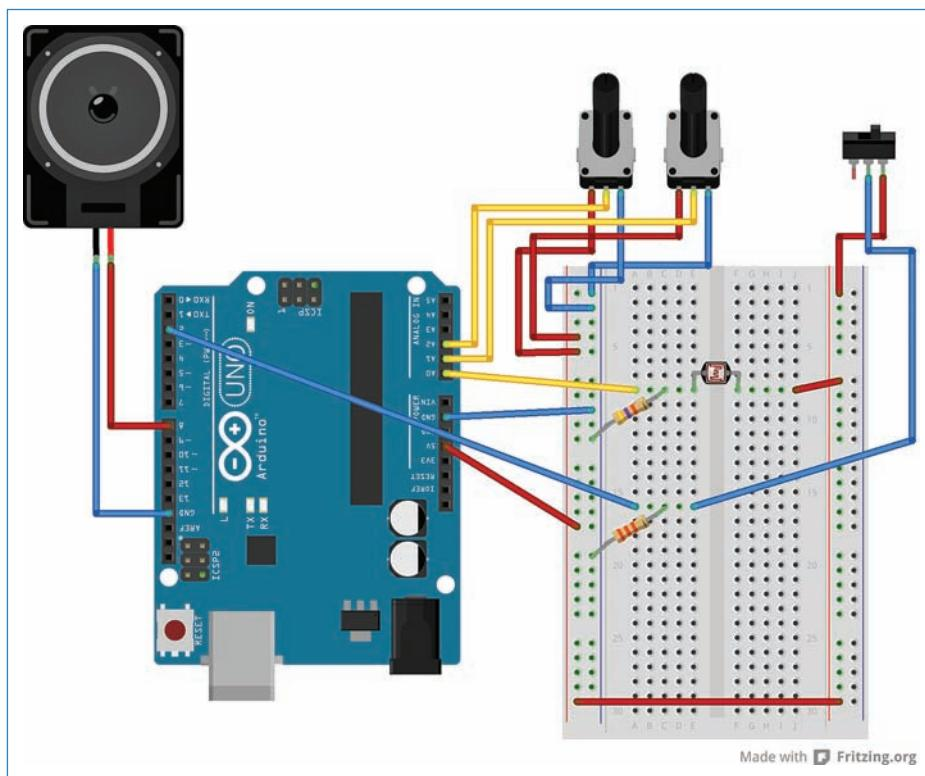

FIGURE 10.21 Wire up the Noisemaker as you see here.
- 12.** Plug the positive wire of the speaker into pin 8, the middle lead of the potentiometers into pins A1 and A2, the switch into pin 2, and the light sensor into A0. You're done! The circuit should look like Figure 10.21, except possibly not having a breadboard. All you have to do is plug in the 9V battery via the battery plug and you're golden!